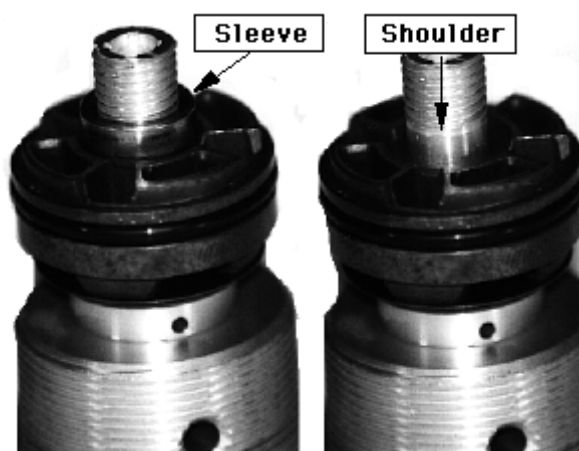

Fig 14
25. Install the spring cup on the shaft with the dished part facing down. Look at the threads on the shaft and make sure the check valve plate is higher than the end of the threads, **fig 14**. **This**